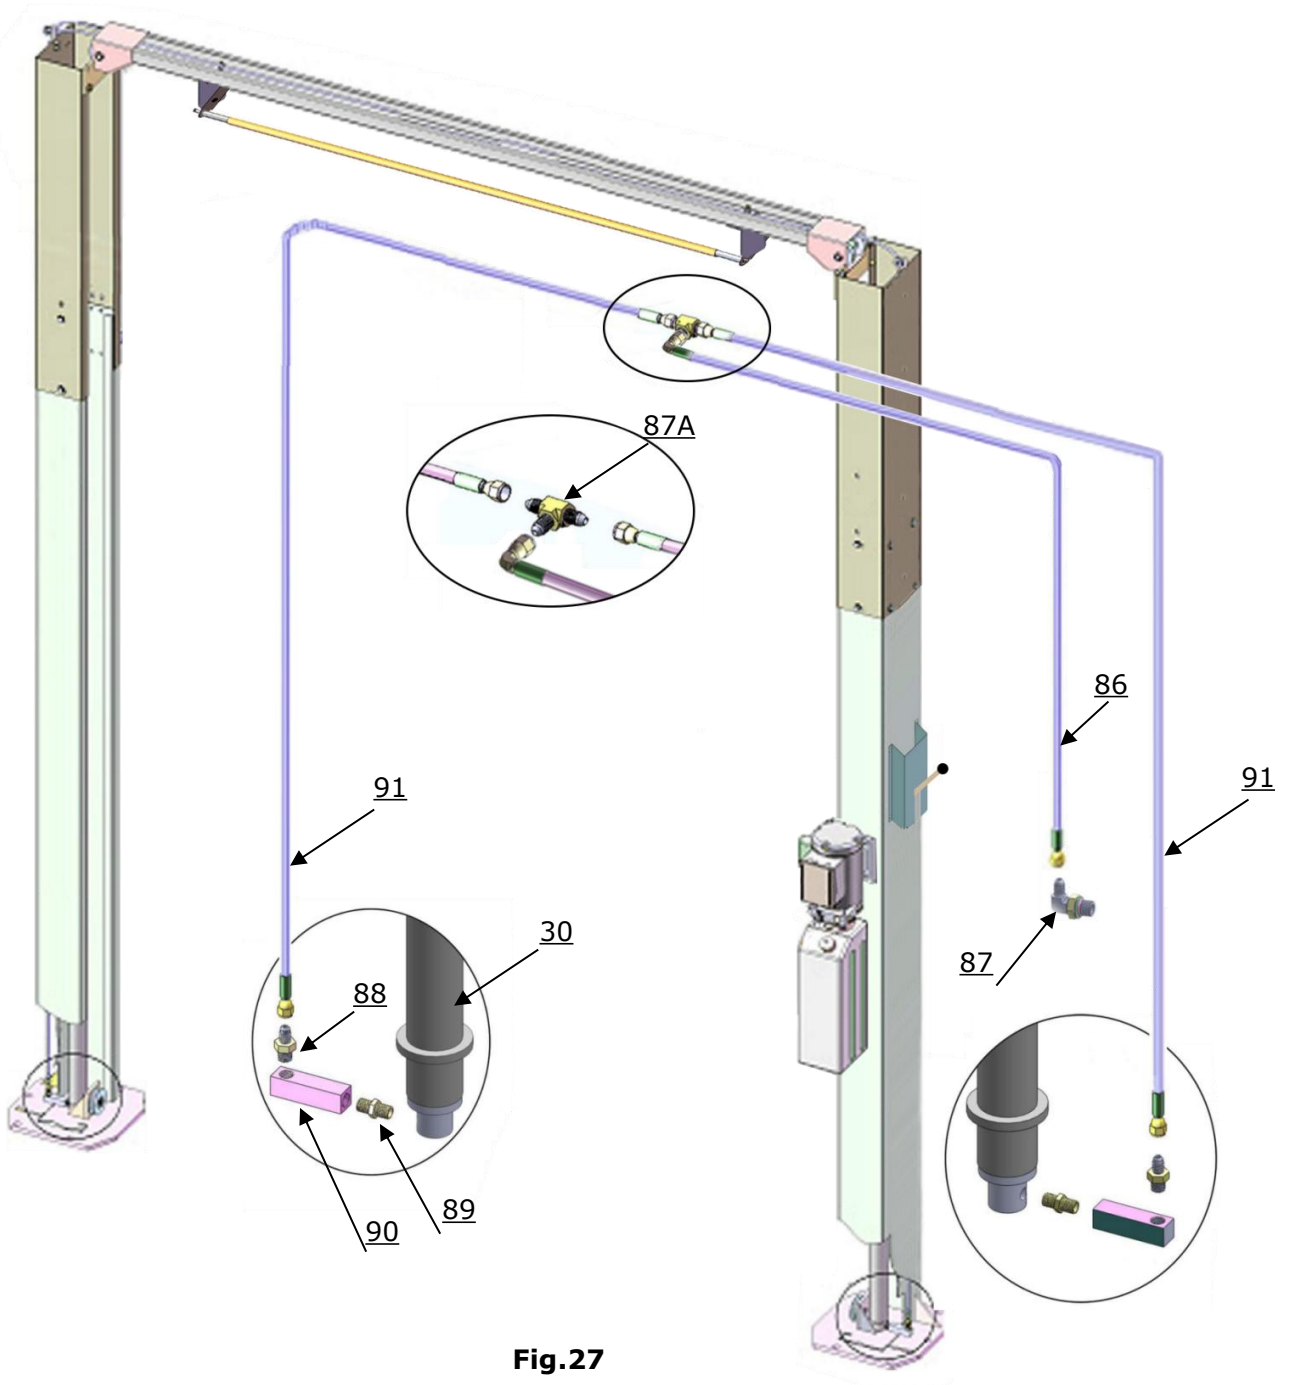

Fig.27
1. Oil-line connecting drawing. (See Fig.27)